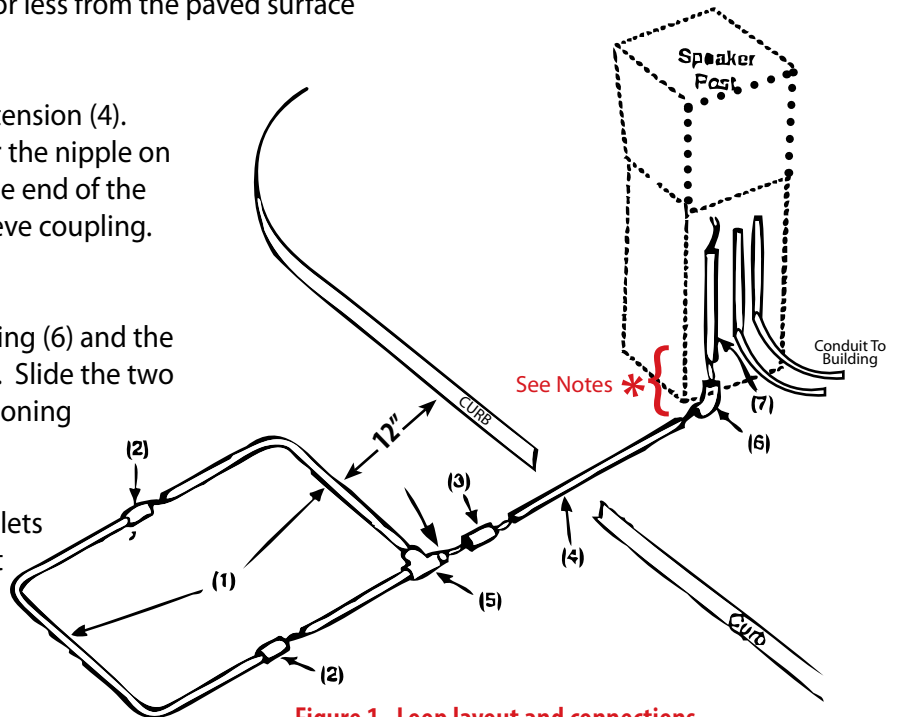

Figure 1. Loop layout and connections
- Lay the loop flat in the drive-thru lane and position it as shown in Figure 1. Level the loop so it will be 2 inches (51mm) or less from the paved surface when the concrete is poured or asphalt laid.
- Pull the loop wires through the PVC loop extension (4). Slide one end of the sleeve coupling (3) over the nipple on the corner fitting of the loop (5), and slide the end of the loop extension into the other end of the sleeve coupling. Use PVC cement on all joints.
- Pull the loop wires through the elbow coupling (6) and the remaining 2 feet (.61 meter) piece of PVC (7). Slide the two ends of (of 4 & 7) into the coupling (6), positioning the piece of PVC (7) so it points upward, out of the ground inside the speaker post. Be certain it is next to and parallel to the outlets of the conduit coming into the speaker post or menu board from the building. (Elbows & Cplings provided in kit)